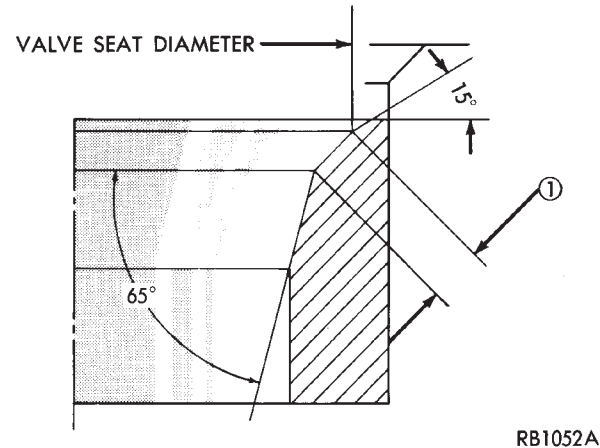

Fig. 23 Refacing Valve Seats
(6) When seat is properly positioned the width of intake seats should be 1.75 to 2.25mm (0.69 to .088 inch) The width of the exhaust seats should be 1.50 to 2.00mm (.059 to .078 inch) (Fig. 23 Dimension 1).